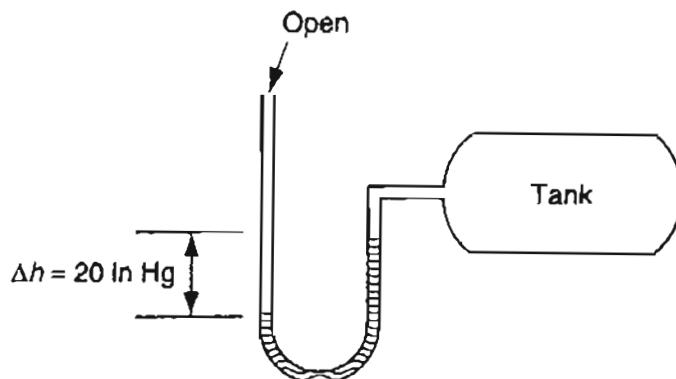

Figure P5.23
- **5.23 Examine Figure P5.23. The barometer reads 740 mm Hg. Calculate the pressure in the tank in psia.